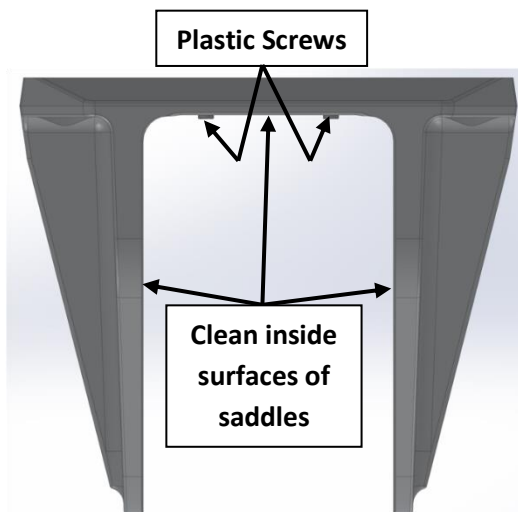

FIGURE 14 - SADDLE CLEANING
- 2) Check that each saddle contains 4 plastic screws which will insure an adhesive gap of .080" (2 mm) on top surface of hull as shown in Figure 14.
- 3) Thoroughly clean with alcohol or acetone the inside surfaces of Seakeeper foundation saddles to remove any contaminants as shown in Figure 14. Use new paper towels for cleaning, not shop rags.